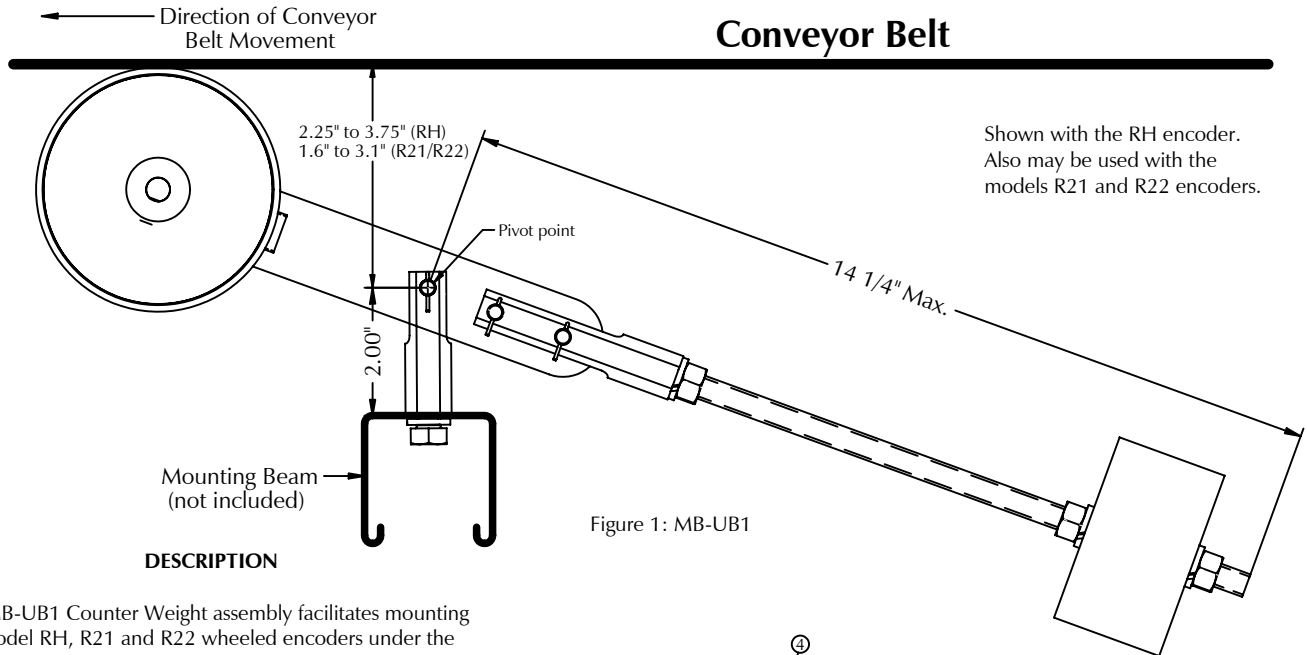

Figure 1: MB-UB1
The MB-UB1 Counter Weight assembly facilitates mounting the model RH, R21 and R22 wheeled encoders under the conveyor belt (or roller) as shown in figure 1. The Y-3 yoke provides a pivot point so the encoder wheels maintain contact and alignment with the belt, compensating for up/down and some sideways movement of the belt. Nylon washers are included to accommodate the thinner handle on the R21 and R22 wheeled encoders.
4. Bolt the Y-3 yoke to a mounting beam (not supplied) using the 3/8-16 bolt and lock washer. The Y-3 should be perpendicular to the conveyor belt with the pivot point below the conveyor belt as shown in figure 1, and positioned so the encoder is aligned with the belt. **Caution:** If the encoder is not aligned with the belt, premature wheel wear will result.